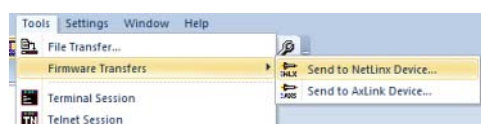

FIG. 13 NetLinX Studio - Tools > Firmware Transfers > Send to NetLinX Device
4. In NetLinX Studio, select **Tools > Firmware Transfers > Send to NetLinX Device** (FIG. 13):